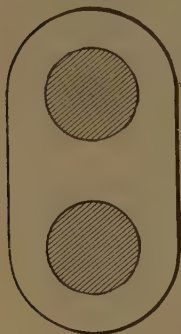

Fig. 99.
A. Yes, cranks may be used, the eccentric being in effect a crank the pin of which is enlarged so as to include the shaft. Thus, ordinarily, the crank-pin is smaller than the shaft and at some distance from it ; in figure 99, it is